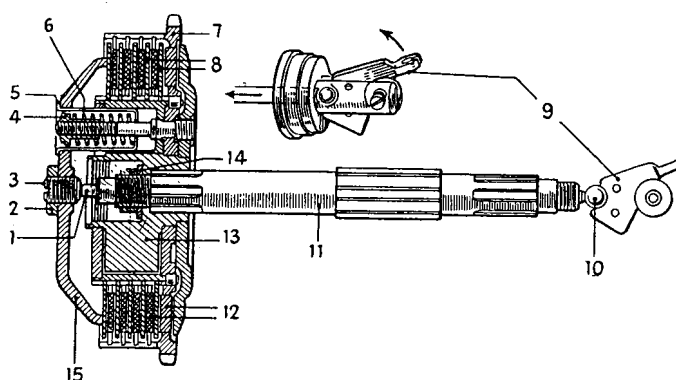

FIG. 73. DETAILS OF A.M.C. MULTI-PLATE CLUTCH AND OPERATING MECHANISM (1957 MODELS)
1957 A.M.C. Clutch Adjustment. All 1957 A.J.S. models have a four-speed gearbox and multi-plate clutch made by Associated Motor Cycles, Ltd. (see page 116). Details of the clutch and the clutch operating-mechanism are shown in Fig. 73. To avoid clutch slip or drag (caused by insufficient or excessive free movement of the cable), it is essential to maintain 1/8 in. – 3/16 in. free movement of the clutch operating-cable.
To rectify insufficient free movement of the operating cable (caused by wear of the friction inserts causing the plates to close up), first loosen the lock-nut and slacken off the adjustable cable-stop on the cover of the kickstarter casing. Next remove the domed cover (secured by eight screws) from the oil-bath chain case (Fig. 62) and, referring to Fig. 73, with the sparking-plug spanner provided in the tool kit, loosen the lock-nut (2). Then with a screwdriver unscrew the thrust cup (3) a turn or two, and afterwards carefully screw it in until you feel it contacts the end of the long thrust-rod (1). Having done this, unscrew the thrust cup (3) exactly one-half turn, re-tighten the lock-nut (2)*, and screw home firmly the domed clutch-cover. Finally adjust the cable stop until the required free movement (1/8 in 3/16 in.) of the operating cable is obtained, and re-tighten the cable stop lock-nut. Check for backlash at the clutch lever on the handlebars.
To rectify excessive free movement of the clutch operating-cable, loosen the lock-nut on the adjustable cable-stop and, referring to Fig. 73, screw in the stop as far as possible to ensure that the operating lever (9) is in its normal position. Next remove the domed clutch-cover from the oil-bath chain case and slacken the lock-nut (2). With a screwdriver gently screw in
KEY TO FIG. 73
home a further half turn each adjustment nut, being most careful to adjust each nut exactly the same amount. Note that the standard adjustment for spring tension (1945-56 clutches) is to tighten fully all the adjustment nuts and then slacken back each nut four complete turns. The standard adjustment on 1957 clutches is to screw home the three adjuster nuts until they are just flush with the clutch-spring cups (see Fig. 73). A very suitable tool for tightening the clutch-spring adjustment nuts is an old and broad screwdriver, slotted on the engaging edge. For 1952 and later models a slotted screwdriver is provided on one of the thin spanners in the tool kit.